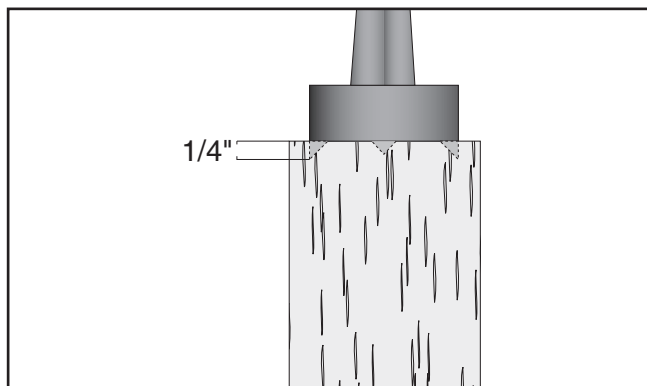

Figure 32. Spur center properly embedded.
5. Making sure the spur center is aligned with the workpiece center you marked earlier, drive the spur center least $\frac{1}{4}$ " into the end of the workpiece (**Figure 32**).